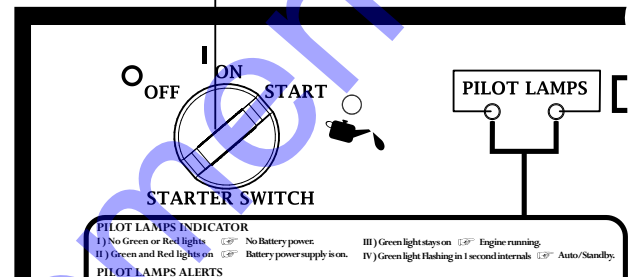

Figure 10. Starter Switch (START)
- Turn the starter switch to the **START** position (Figure 10).
3. Turn the starter switch to the **START** position (Figure 10).